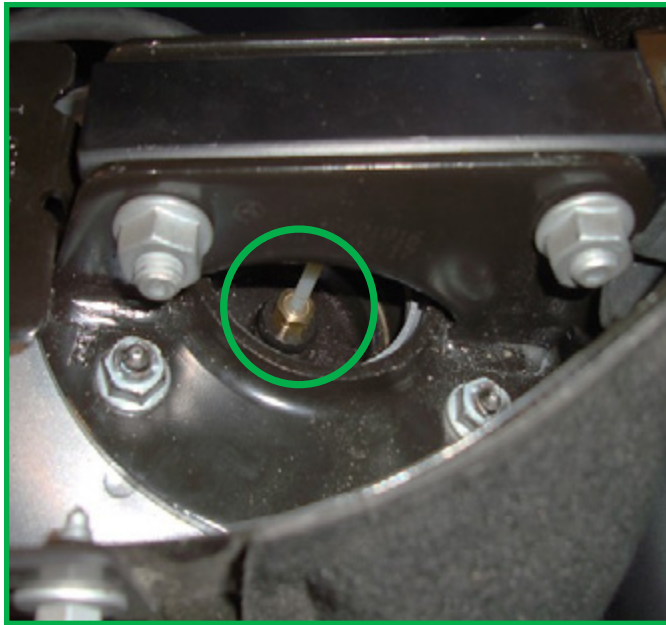

FIGURE 5
7. Disconnect the air line by unscrewing the brass fitting from the strut's top mount. (Figure 5)